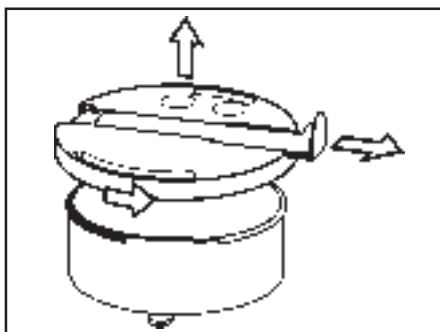

Fig. 14: Removing the accumulator
2. Pull the slide in the lid to the right (see fig. 14).